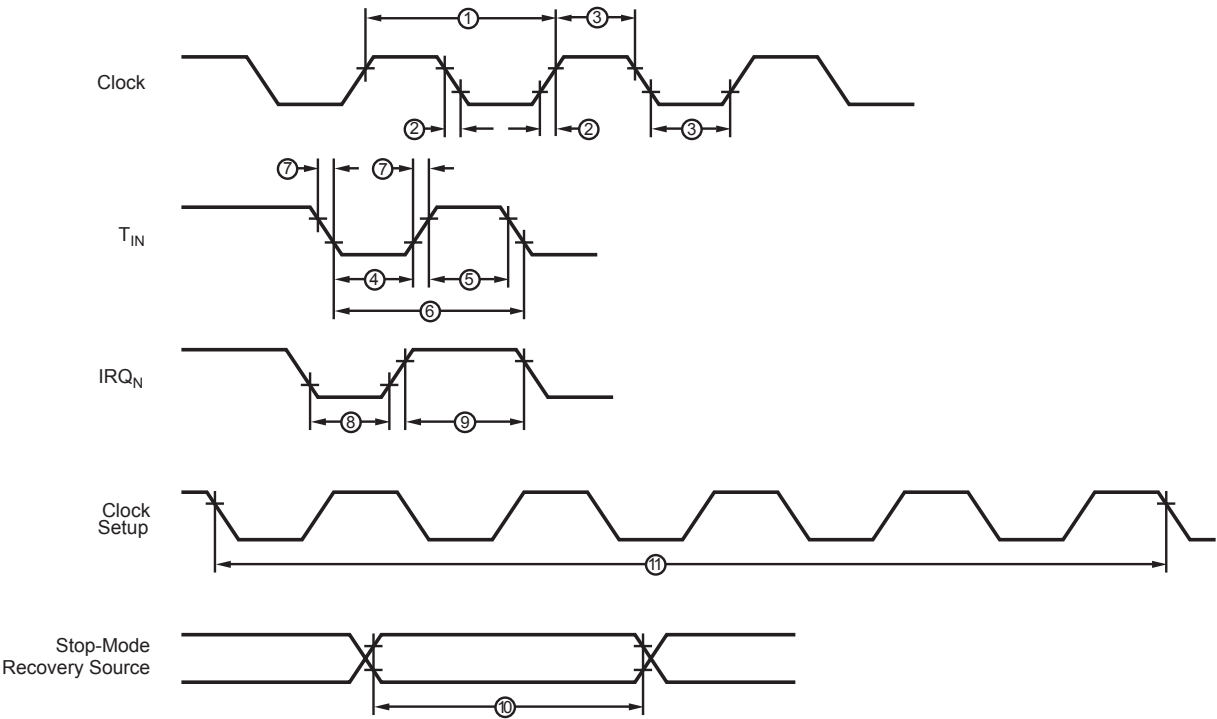

Figure 40. AC Timing Diagram
Figure 40 and Table 62 on page 132 describe the alternating current (AC) characteristics.